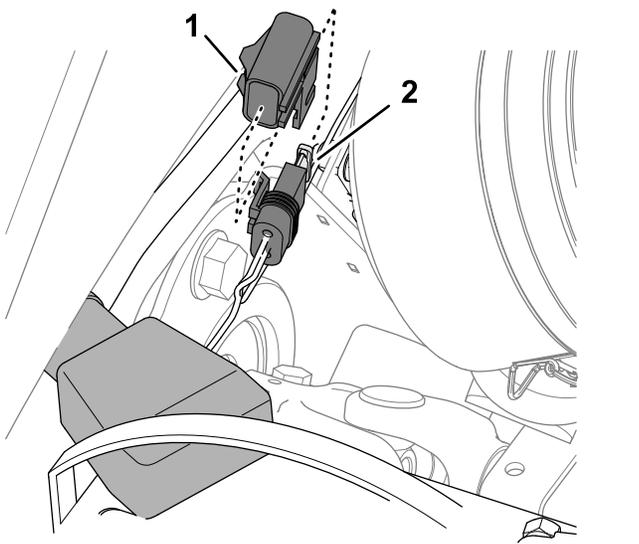

Figure 100
3. Locate the in-line fuse holder that is inboard of the battery (Figure 100).